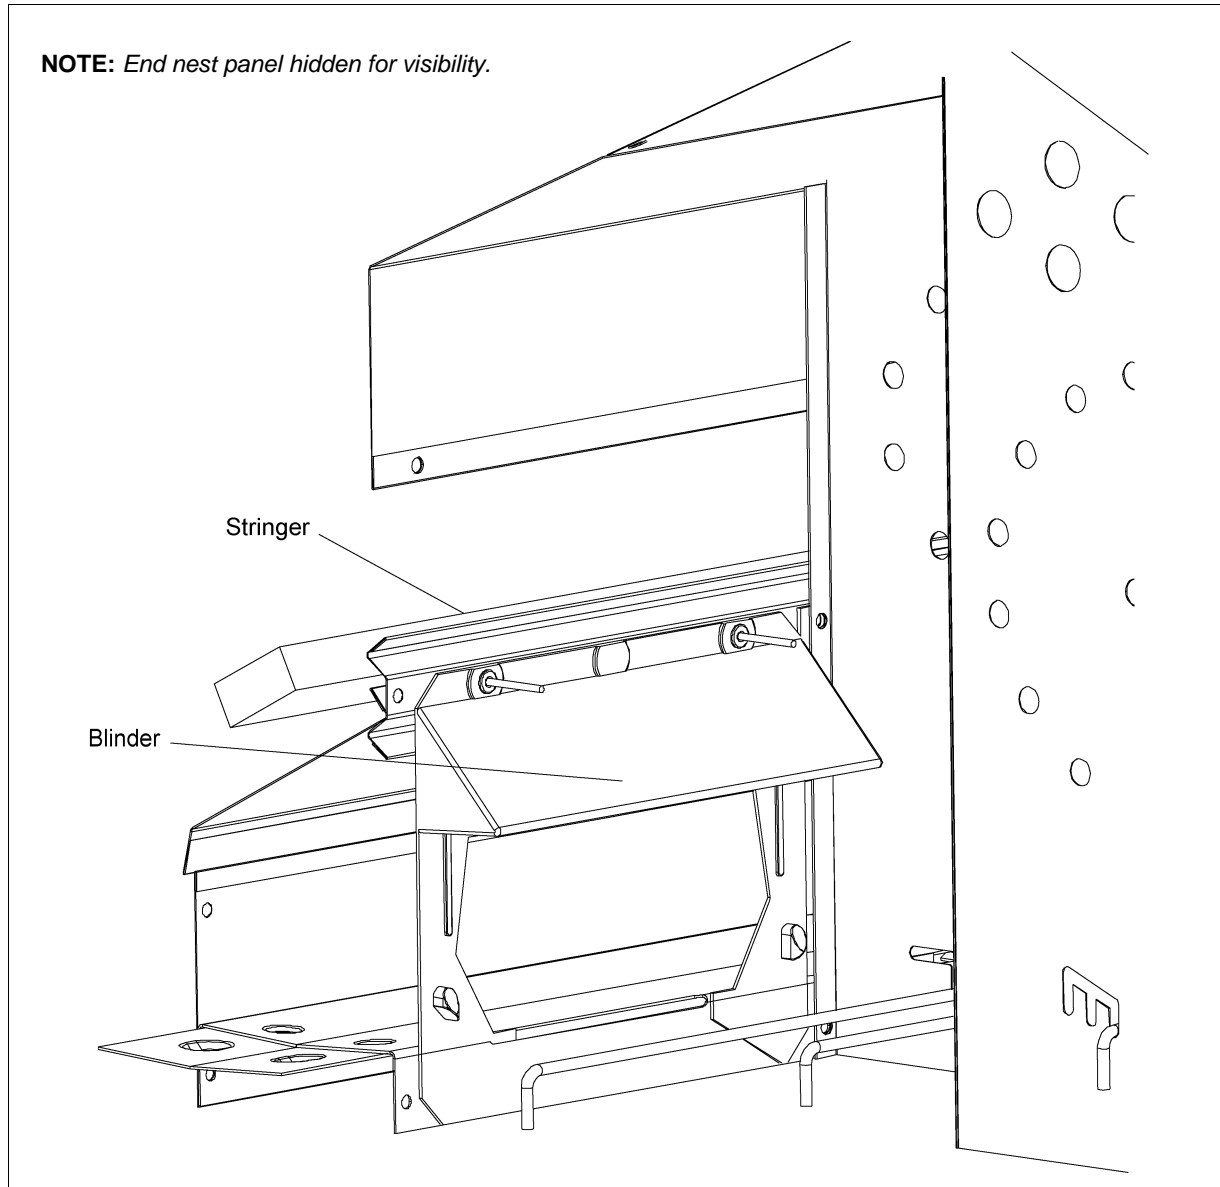

Figure 40 *Blinder Installation*
14. Inside the nest hole, place the flat edge of the blinder up against the stringer (previously installed) and line up the holes in the blinder with the holes in the stringer. Secure in place with two (2) **S-7060 (3/16" rivet diameter, 7/16" long aluminium rivets) steel rivets**; rivets must be inserted from inside the nest hole out through the stringer so that the rivet expands against steel rather than plastic. (See Figure 40.) Repeat this process for the remaining nineteen (19) nest holes (fifteen (15) for FRN16).